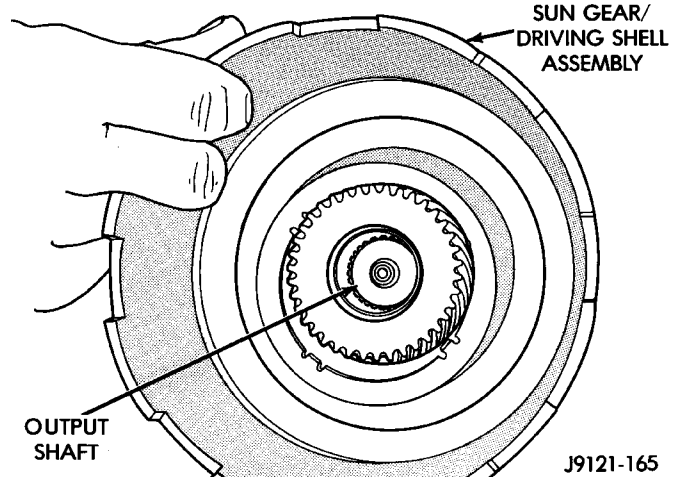

Fig. 177 Installing Assembled Sun Gear And Driving Shell On Output Shaft
(12) Install assembled driving shell and sun gear on output shaft (Fig. 177).